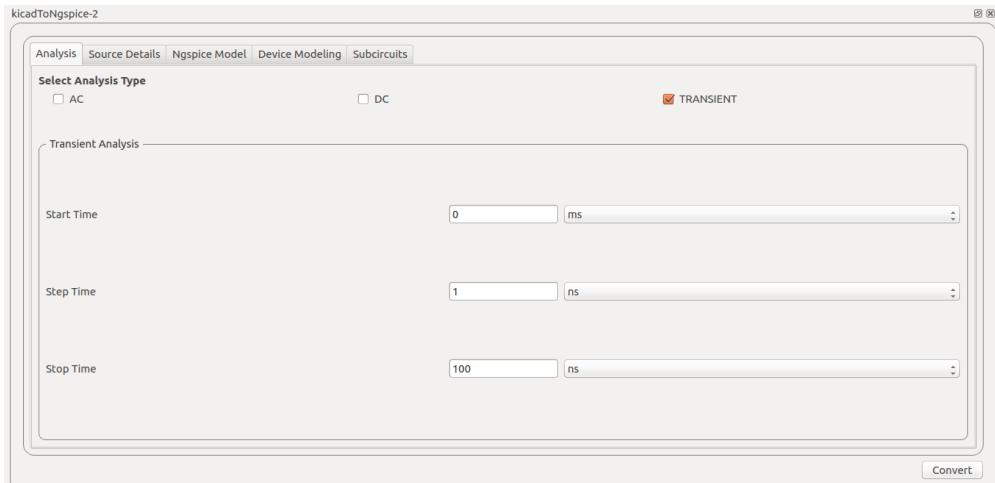
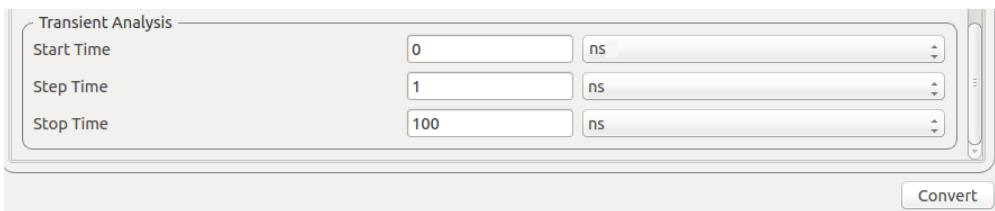

Figure 10.11: Analysis Part I
Figure 10.12: Analysis Part II
- After creating the schematic, click on `KiCad-to-Ngspice converter` and select the type of analysis as transient as shown in Fig. 10.11 and set the start, step and stop time as shown in Fig. 10.12